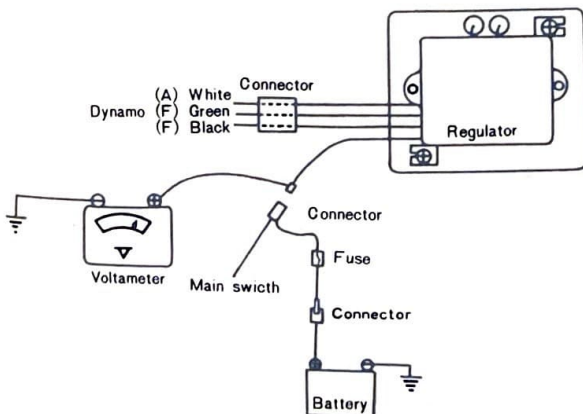

Fig. 6-6-1
(1) Inspection
- Start the engine and keep it running at 2,500 rpm. Your regulator is correct if the tester reads 15.8~16.5 V (Fig. 6-6-1)